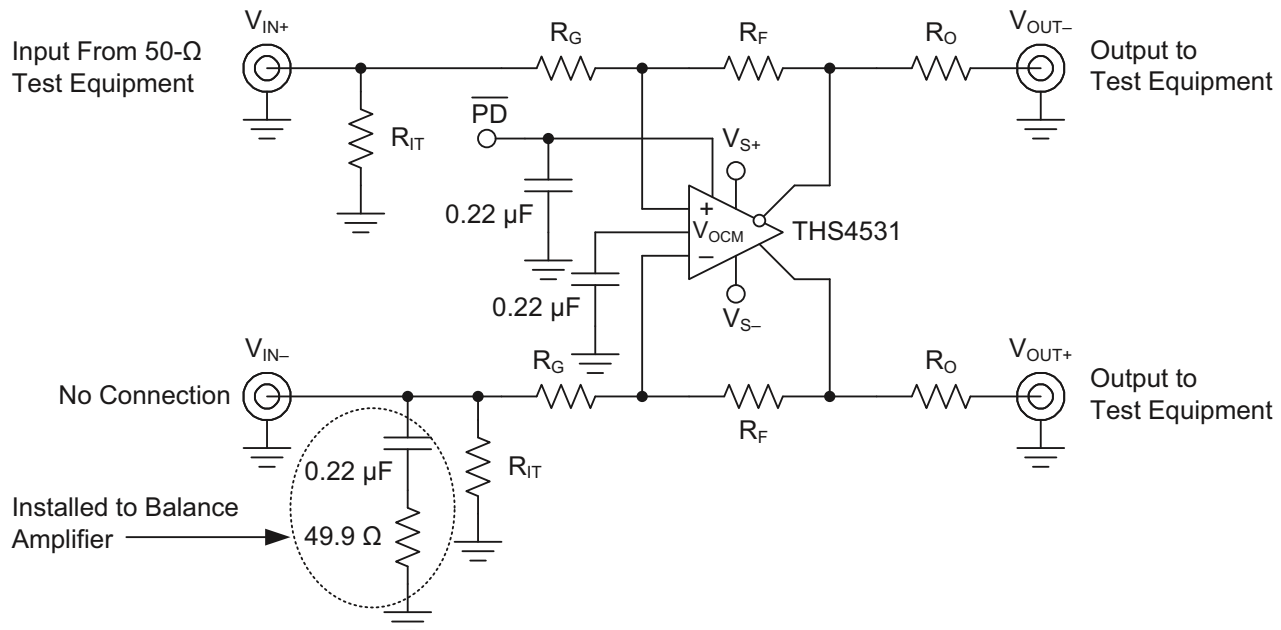
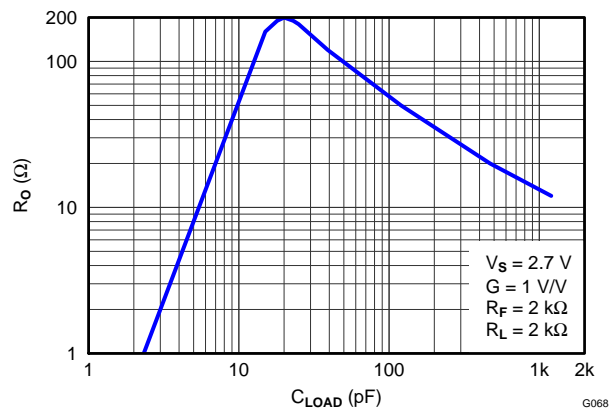
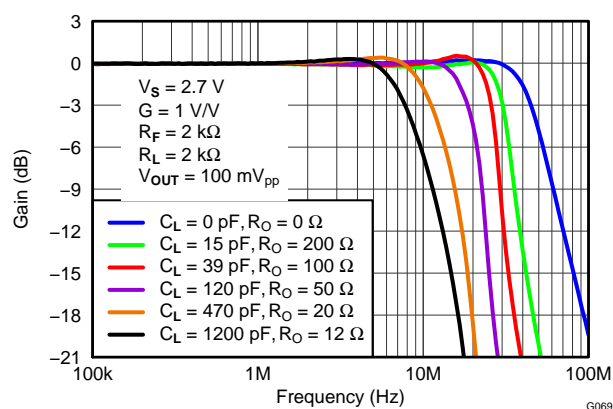

Figure 69. Slew Rate, Transient Response, Settling Time, Z_O , Overdrive Recovery, V_{OUT} Swing, and Turn-on/off Test Circuit
Figure 78. Recommended Series Output Resistor vs Capacitive Load for Flat Frequency Response
Figure 79. Frequency Response for Various R_O and C_L Values
The circuit shown in Figure 69 is used to measure slew rate, transient response, settling time, overdrive recovery, and output voltage swing. Turn on and turn off times are measured with 50 Ω input termination on the \overline{PD} input, by replacing the 0.22 μ F capacitor with 49.9 Ω resistor.
Inserting R_O will compensate the phase shift and restore the phase margin, but it will also limit bandwidth. The circuit shown in Figure 69 is used to test for best R_O versus capacitive loads, C_L , with a capacitance placed differential across the V_{OUT+} and V_{OUT-} along with 2k Ω load resistor, and the output is measure with a differential probe. Figure 78 shows the optimum values of R_O versus capacitive loads, C_L , and Figure 79 shows the frequency response with various values. Performance is the same on both 2.7V and 5V supply.
4. A series output resistor is recommended to be placed as near to the output pin as possible. See Figure 78 "Recommended Series Output Resistor vs. Capacitive Load" for recommended values given expected capacitive load of design.